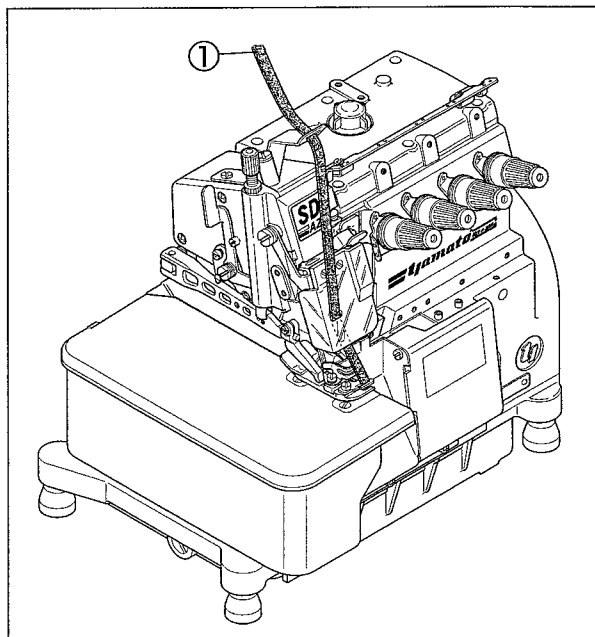

Fig. 5-13
Pass a tape① by referring to Fig. 5-13 for the models of the tape attaching.